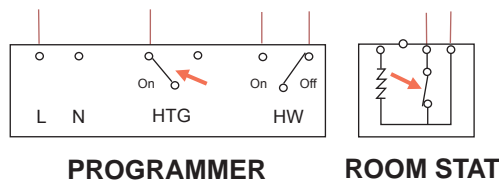

Fig. 7
1. Heating comes on, room thermostat calls for heat (Fig. 7).